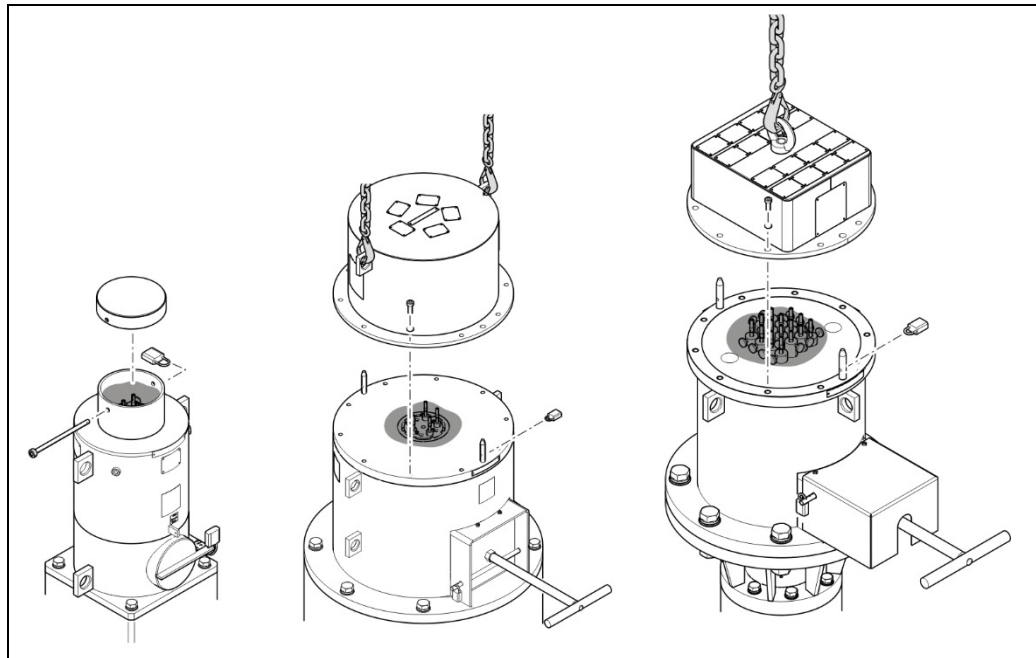

Fig. 18 Alternative test area
- the area marked in grey in Fig. 18.